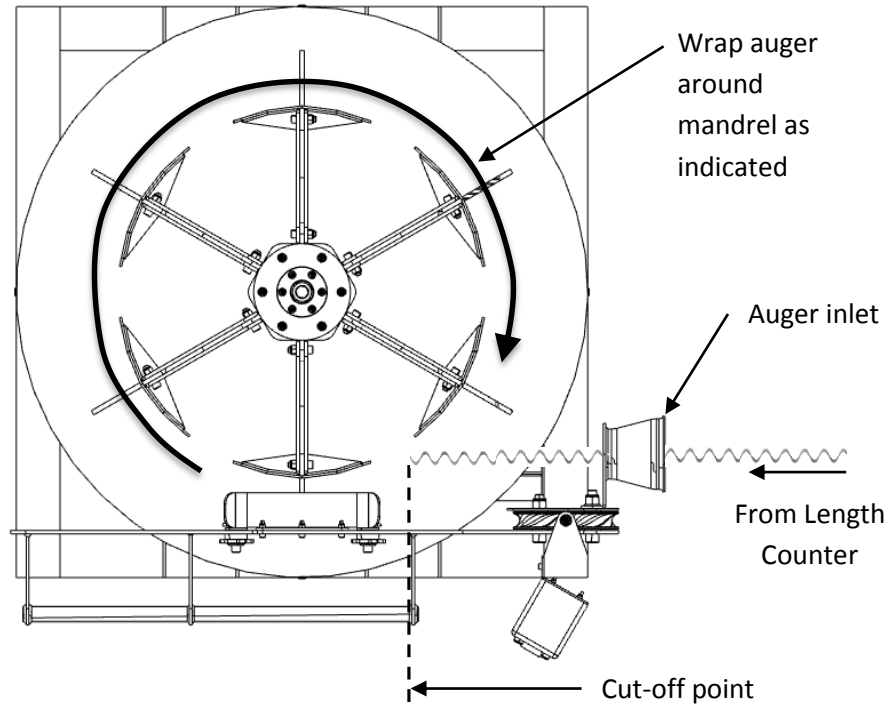

Figure 14: Setting up the coiler
2. After the decoiler has been properly set up and the length counter is ready and calibrated, feed the auger through the inlet (Figure 14).
5. Continue to pull the auger through the inlet and wrap around the mandrel as shown in Figure 14.